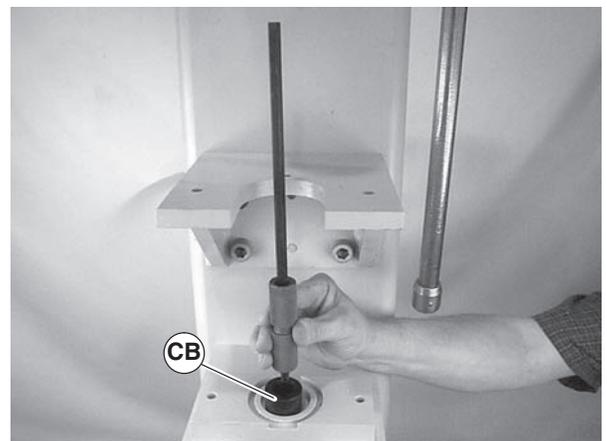

Figure 60
4. Orient bearing anvil/sleeve removal tool (25-09, part of tool kit 4500) (Figure 60, item CB) with cavity facing up and place pulley onto tool.